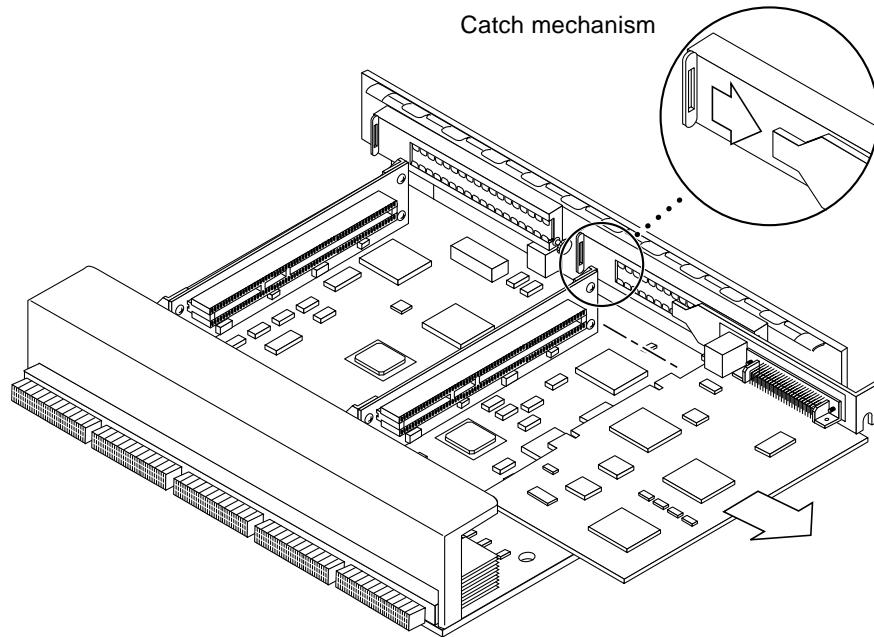

FIGURE 4-21 PCI Card Removal
4. Refer to FIGURE 4-21 while removing the card as follows:
5. Once the card is free of the PCI bus connector and the metal catch mechanism, remove the card from the I/O board (FIGURE 4-21).